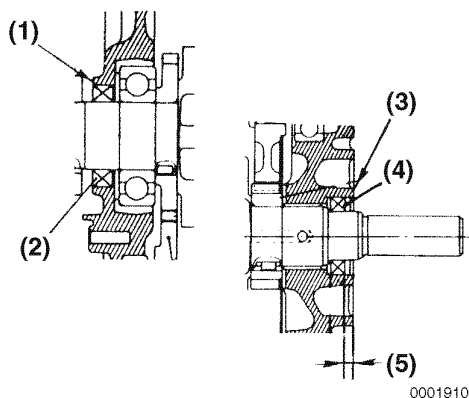

Figure 8-87
2. Use a seal installation tool to install the crankshaft oil seal (**Figure 8-87, (4)**) into the crankcase cover (**Figure 8-87, (3)**). Install to a depth of 0.16 in. (4.0 mm) (**Figure 8-87, (5)**) below the end of the crankcase bore.
3. Install the crankshaft oil seal (**Figure 8-87, (2)**) into the cylinder block flush with the surface of the cylinder block (**Figure 8-87, (1)**).